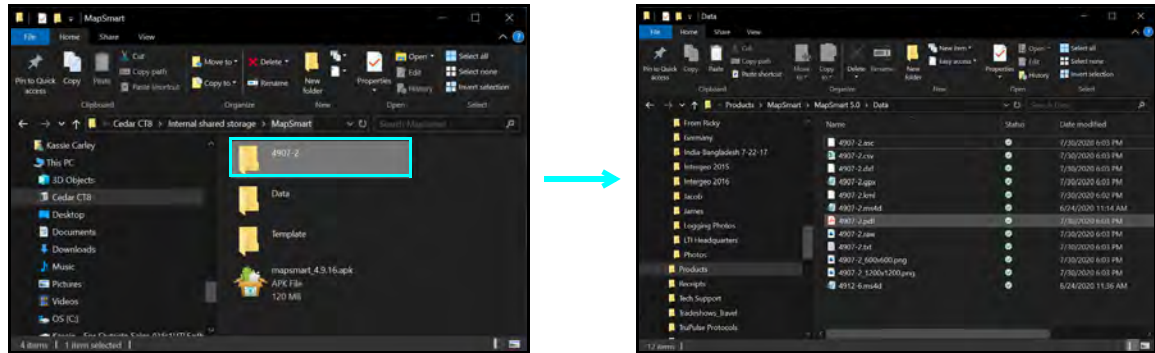

Figure 122
6. Double-click the folder that coincides with the survey name and the saved survey reports will display (Figure 122). Copy any of the individual reports, or copy the entire folder to transfer all the reports for the survey by highlighting them and then right-click/copy with your mouse.
For the purpose of managing the Android device's memory and resources, it can be helpful to delete reports and MS4D files from the Android device after they have been safely transferred to a PC (Figure 122). When MapSmart is installed on a Android device, it creates a folder called MapSmart for storing program settings, reports, and MS4D format survey files. The MS4D survey files can only be opened within MapSmart and are located in a sub-folder called "Data." Do not delete the Data folder unless all the MS4D files have been placed safely on a PC. If the Data folder is deleted, it cannot be recovered and the deletion cannot be undone. As long as the MS4D files are kept on the Android device or somewhere on a PC, they can be opened in MapSmart to re-create any reports, if necessary.